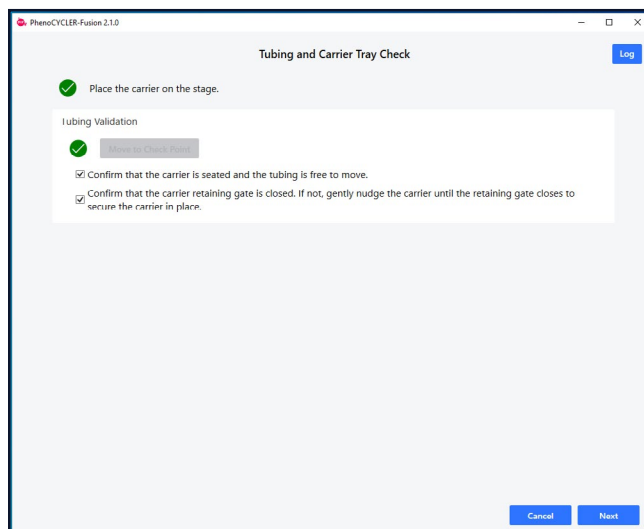

Figure 6.13. Dialog window, Tubing and Carrier Tray Check intermediate step.
2. Click the Move to check point button to move the carrier to the imaging position. (See Figure 6.13.)